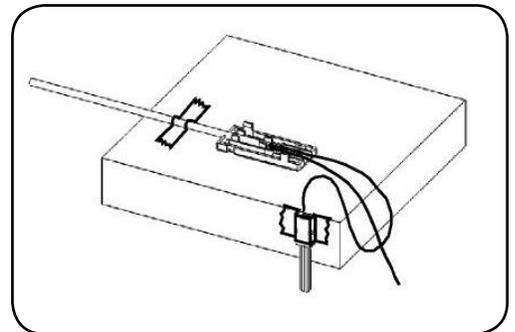

Figure 3
**Step 16:** Select the blue fiber and thread 6 inches (150mm) into the blue tube of the terminal assembly (**Figure 3**).